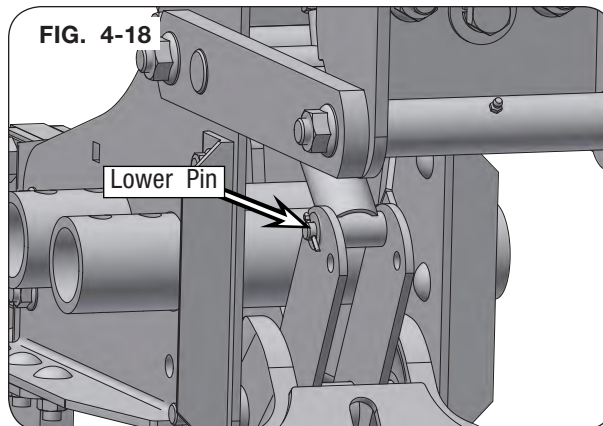

FIG. 4-19
3. Remove the cotter pin, washer, and lower pin from the height adjustment assembly. (Fig. 4-19)